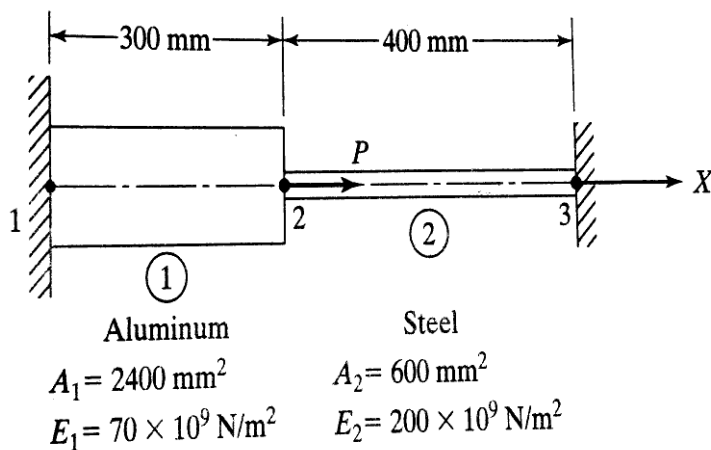

Fig. 1.
- (c) Consider the bar shown in fig. an axial load $P = 200 \times 10^3 \text{ N}$ is applied as shown in **Fig. 1**. Using the penalty approach for handling boundary conditions do the following: **07**